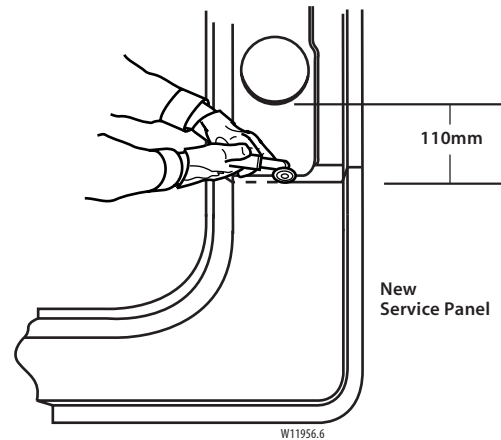

Figure 6-7:
1. On the service part, measure 110mm ($4\frac{3}{8}$ inches) down from the large wiring harness hole in the hinge pillar and mark a horizontal line to leave a 30mm ($1\frac{3}{16}$ inch) overlap with the original panel. Cut the hinge pillar along this line (figure 6-7).